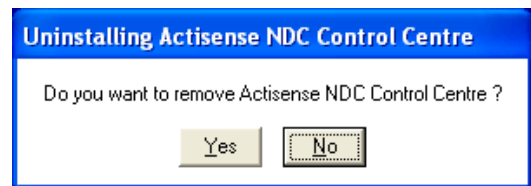
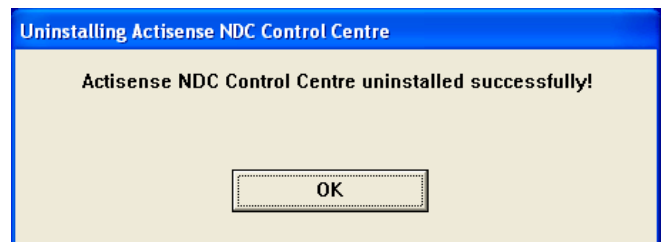

Figure 8 – Uninstall confirmation
Figure 9 – Uninstall complete
3. Once the uninstall operation has been requested, the confirmation box (figure 8) will be displayed. Answer 'Yes' and the uninstall operation will be performed automatically. After successfully uninstalling the Actisense PC software, the uninstall completion box will appear (refer to figure 9).